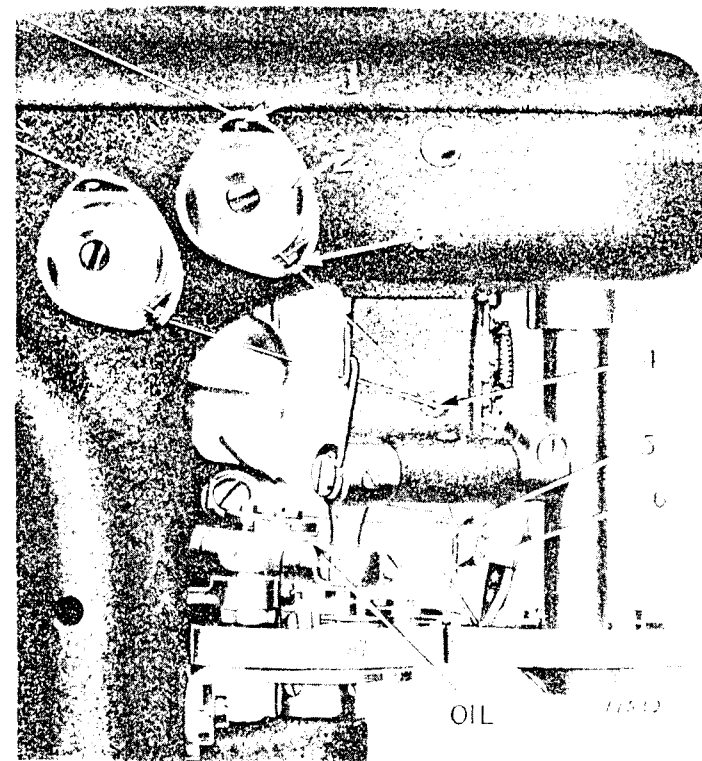

Fig. 6. Right Hand Looper Threaded
The machine will be furnished to make the three-thread stitch if so ordered, or it may be converted at any time by adding a tension assembly as shown in Fig.6, and substituting a looper for the spreader.
The machine may be converted to make the three-thread stitch by attaching a thread tension assembly to the left side of the machine and replacing the spreader with a thread carrying looper as shown in Fig. 6. This looper is set in the same manner as the spreader. (See page 15).
To thread the right hand looper, pass the thread from the unwinder down through the upper eyelet (1, Fig. 6) in the tension bracket, around between the tension discs (2), through the eyelet (3), through the hole (4) in the machine bracket, down and to the right through the hole (5) in the heel of the looper, and to the left through the eye (6) of the looper. Leave about three inches of thread through the eye with which to commence sewing.